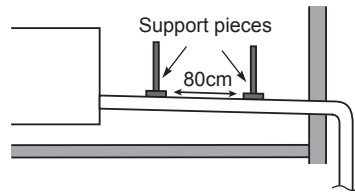

Fig. 3-10
- Do not apply force to the piping on the unit side when connecting the drain pipe. The pipe should not be allowed to hang unsupported from its connection to the unit. Fasten the pipe to a wall, frame, or other support as close to the unit as possible. (Fig. 3-10)